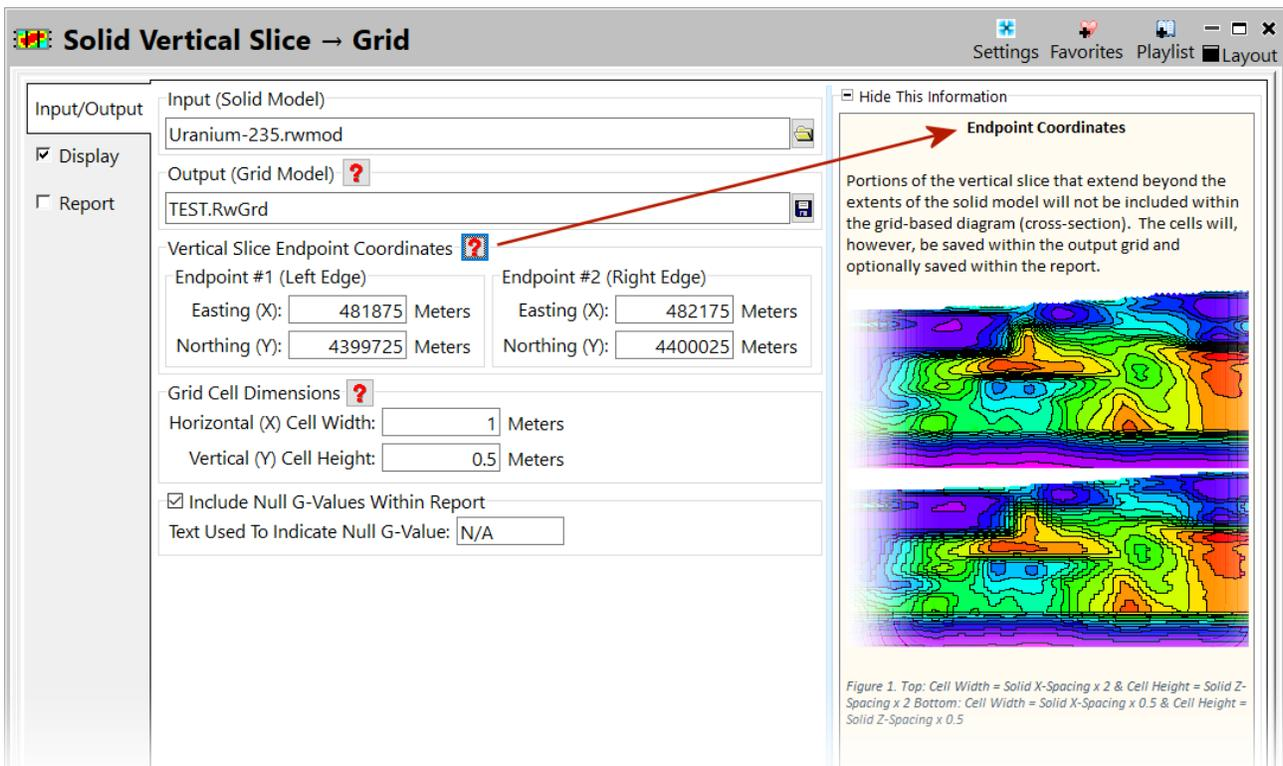

Figure 2
This program (Figure 2) may be used to (1) create a grid that represents a vertical slice through a solid model based on two user-defined endpoints, (2) display the grid, and (3) create a report in a variety of format that lists the XYZ coordinates and corresponding solid-model g-values at those locations.